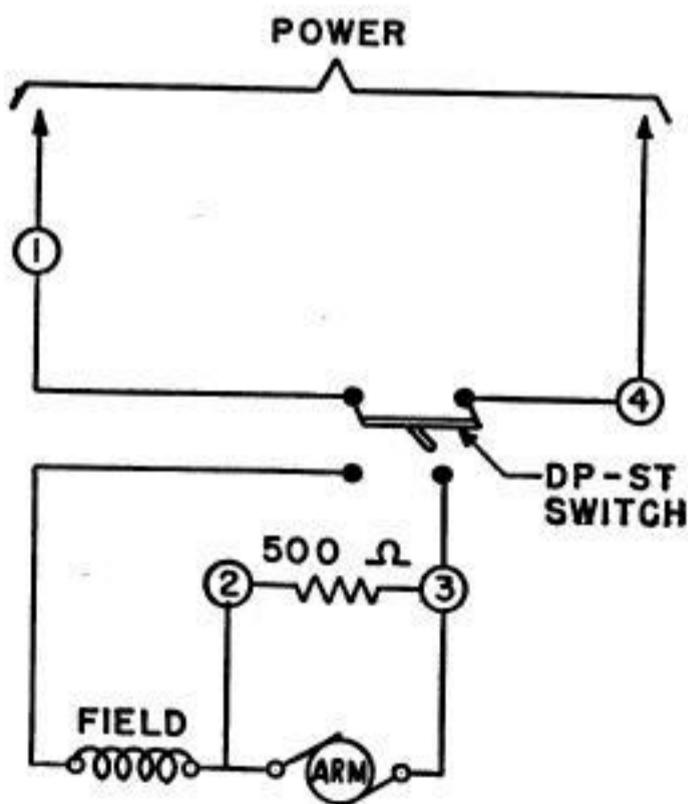

Fig. 3—15-type Paper Winders—Schematics
2.06 **Wiring:** The power cord with receptacle should be connected to the terminal blocks of the 15 teletypewriter base, and the proper strap should be removed from the motor resistors in accordance with Fig. 2. The schematic circuit is shown in Fig. 3.